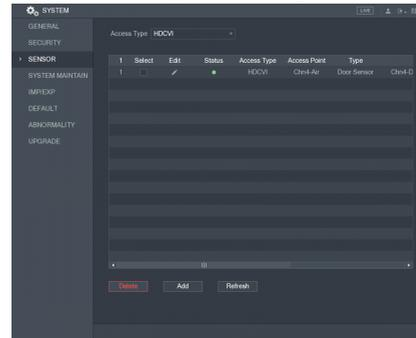

Figure 5-6
- The indicator light of node device is off, it means device pair succeeds. Click right button and return to sensor interface where you can check the added node devices, which is shown in Figure 5-6. The gateway camera will send signal to XVR back-end device and generate alarm if the node device alarm is triggered.
- The indicator light of node device is off, which means device pair succeeded. OSD menu displays that Enroll is off. Wait for about 3 minutes and enter “Sensor” interface (please refer to 5.1.1) to check the added node devices, which is shown in Figure 5.6. If the node device alarm is triggered at this moment, the gateway camera will send signal to XVR back-end device and it will generate alarm.
Enter the “Sensor” interface (Please refer to 5.1.1), check and modify the name of added node device, which is shown in Figure 5-6.